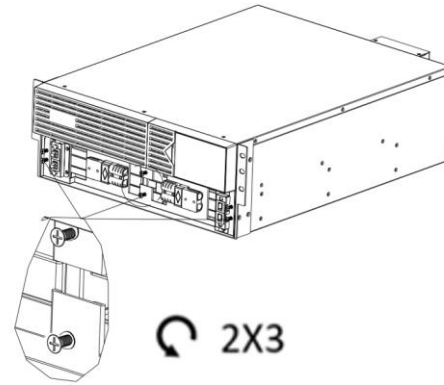

Figure 2
2. Unscrew and remove the battery retention bracket using a Philips screwdriver. (Fig. 2)